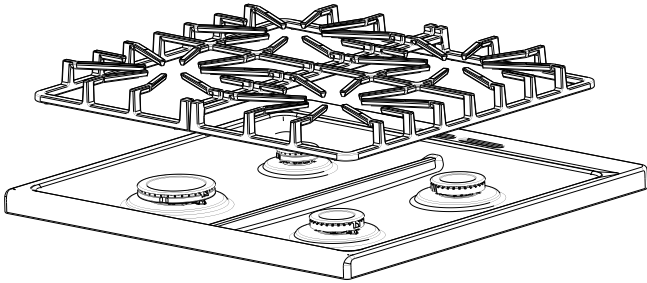

Figure 6: Place burner grades
- Make sure the burner grates are properly placed on the cooktop before using the surface burners (Figure 6). The grates are designed to rest inside the recess on the cooktop.